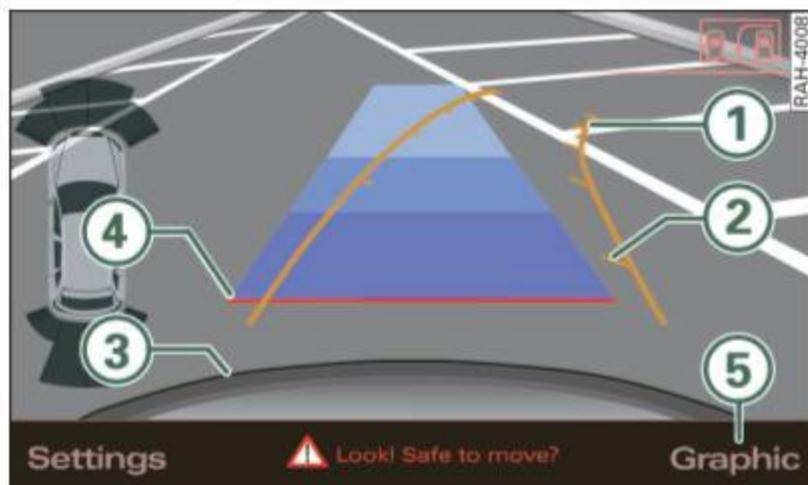

Fig. 148 MMI display: aiming at a parking spot
- Press the **Graphic** control button \Rightarrow page 137, fig. 148 ⑤ to see the visual display.
- Turn the steering wheel until the orange orientation lines ① appear in the parking spot ⇒ fig. 148. Use the markings ② to help you estimate the distance from an obstacle. Each marking represents 3 ft (1 meter). The blue area represents an extension of the vehicle's outline by approximately 16 ft (5 meters) to the rear.
- While driving in reverse gear, adjust the steering wheel angle to fit the parking space with the aid of the orange orientation lines ⇒ !. ③ marks the rear bumper. Stop the vehicle when the red orientation line ④ borders an object ⇒ !.